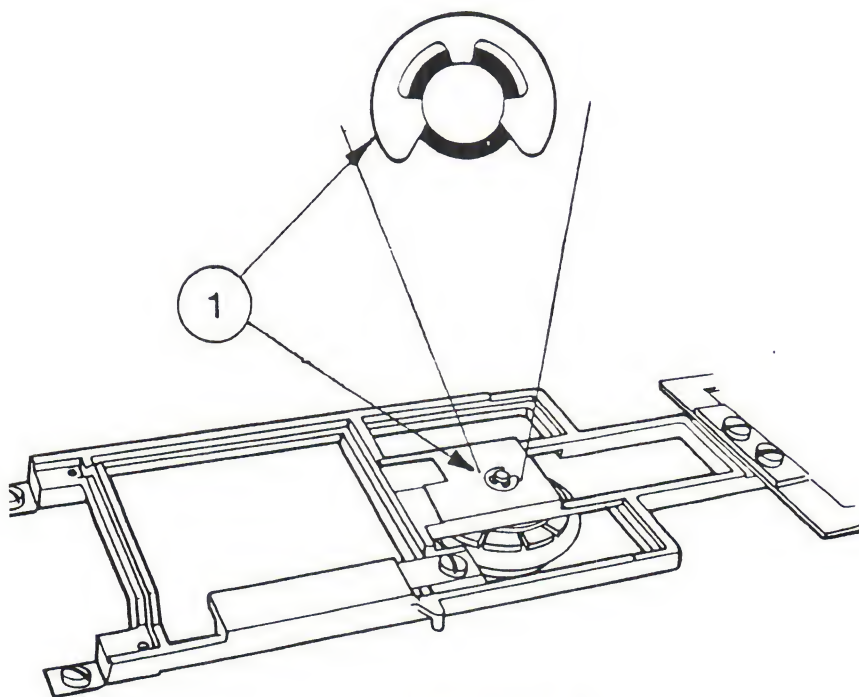

FIGURE 5
4. With a screwdriver, pry the retaining clip (Fig. 5, #1) off the shaft holding the collet.
6. The switch is located just inside the front left side of the housing as you face the drive door. Locate the two setscrews holding the write-protect switch in place (Figure 5, #1 & 2). The far setscrew (Figure 5, #1) forms a pivot for the switch; the near setscrew (#2) sets the switch position.